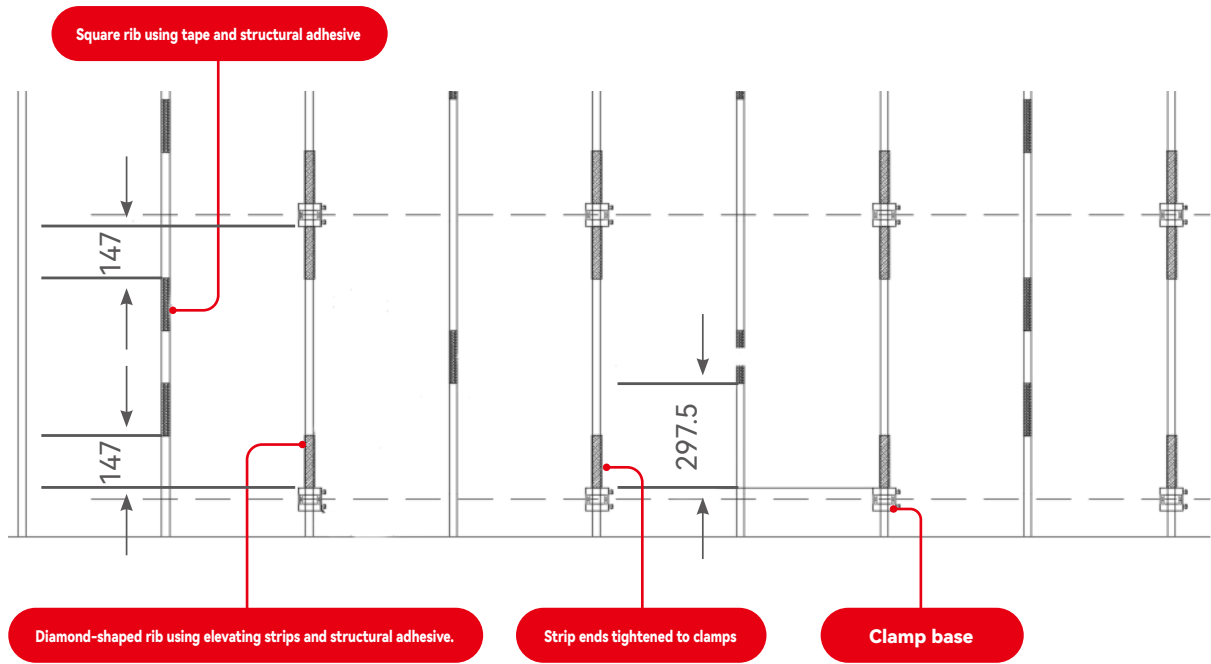

FIGURE 7
- ③ Installing tape and clamp strips, structural adhesive, using tape + adhesive on the square rib to bond the back of the product, the width of the tape is 6mm, the height is 5mm, the surface of the adhesive should be higher than the surface of the tape to ensure that the back of the product can fully contact with the adhesive (Figure 5), the overall length is 150mm, see (Figure 7) for details of the arrangement;
- ④ Use elevating strips on the diamond rib (Figure 6), with one end of the strips pressed against the side of the clamp, with each strip positioned as shown (Figure 7);